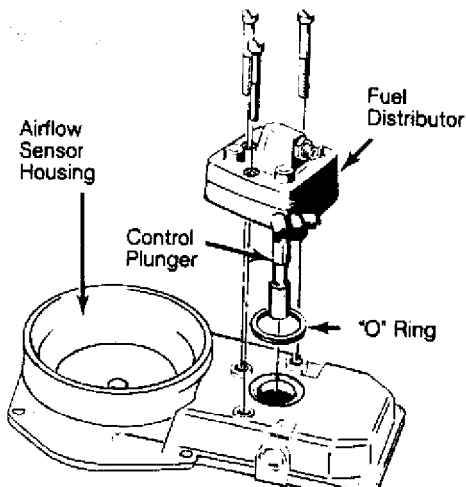

Fig. 6: Removing Fuel Distributor Control Plunger
3) Lift plate and return it rapidly to rest position. Plunger should be heard hitting lever as it moves slowly to rest position. If not, control plunger is sticking. Remove 3 screws from fuel distributor and lift off of airflow sensor housing. Be careful not to drop control plunger. See Fig. 6.